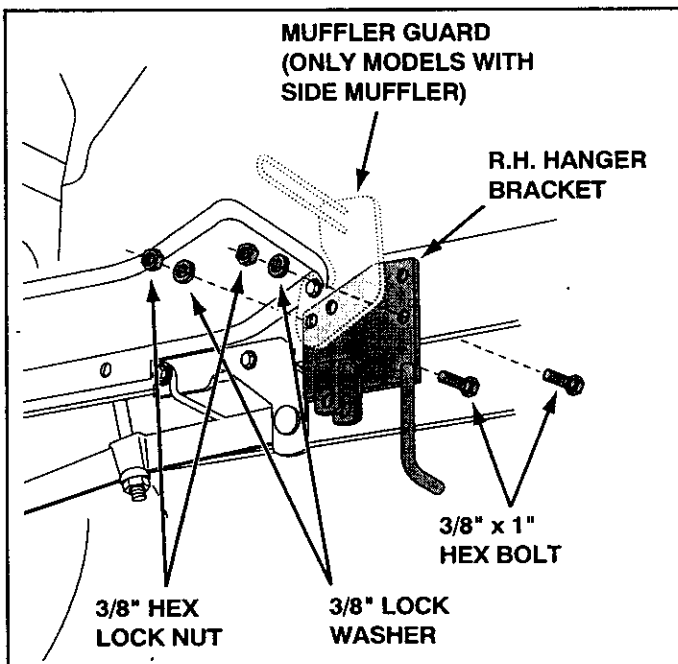

FIGURE 4 RIGHT SIDE VIEW
- Assemble the R.H. hanger bracket to the bottom hole where the mower stop bracket was removed and to the bottom hole under the front of the foot rest. Fasten with two 3/8" x 1" hex bolts, 3/8" lock washers and 3/8" hex lock nuts. (On tractors with muffler guards, slide the hanger bracket between the guard and the tractor frame.) See figure 4.